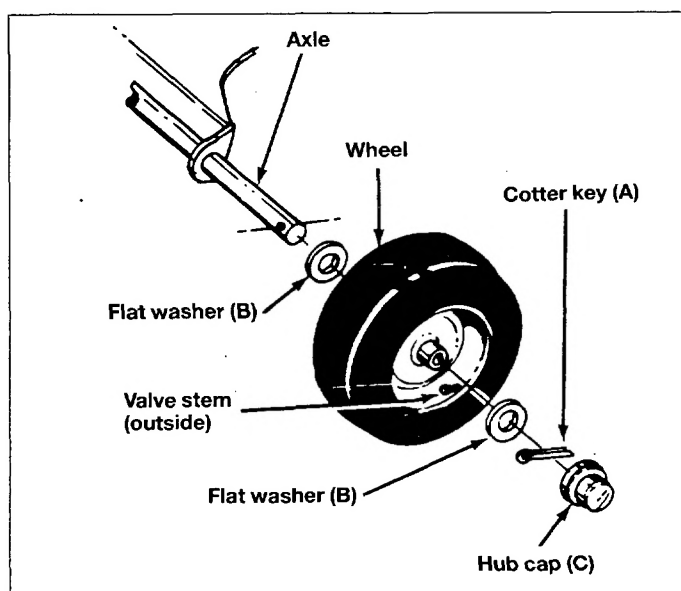

Fig. 12
17. Assemble large diameter flat washer (B), wheel, another flat washer (B), cotter key (A) and hub cap (C) to each axle end.
N.B. Position valve stem to outside when installing wheels on axle. See figure 12.